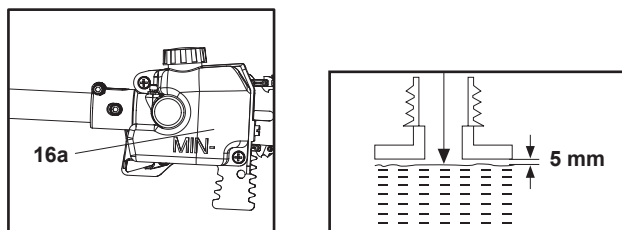

Fig. 17
- Don't fill the oil lower than the "MIN" mark on the oil level window (16a), but also do not overfill and leave approximately 5 mm of space between the top of the oil and the inside edge of the tank to allow for expansion (Fig. 17).
- Check the oil level window (16a) prior to start-up and regularly during operation. Refill oil when the oil level is close to the bottom of the oil level window (16a) (Fig. 17).
- Wipe up spilled lubricant with a soft cloth and refit the oil tank cap (16).